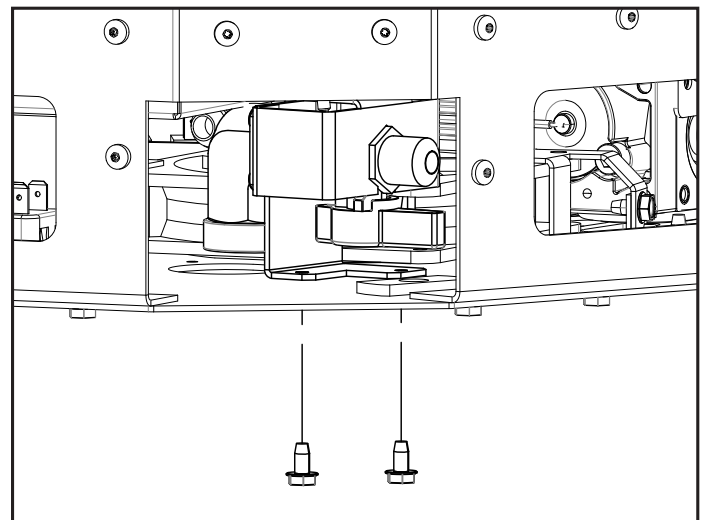

Figure 86: Gas Connection Re-installation
5. Work the flex line and get the gas connection assembly into position as shown in Figure 86. Attach the assembly to the firebox using two (2) 5/16" hex head bolts from below.